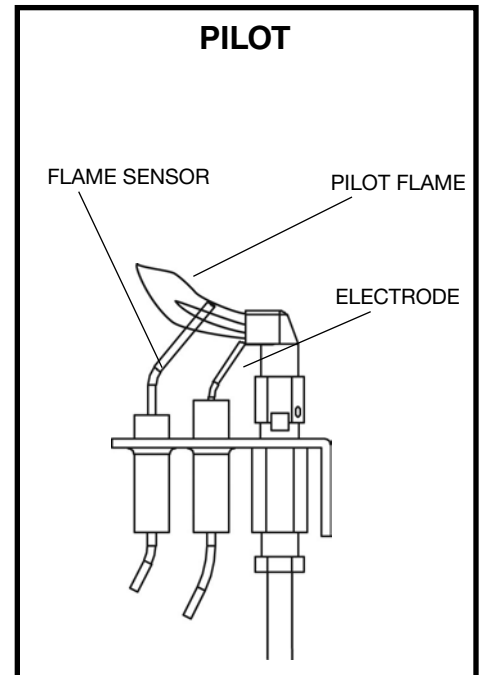

Figure 32: Pilot assembly.
- b) Check the pilot system for proper flame size and operation. Clean pilot free of soot, dust or any other deposits. (Figure 32)